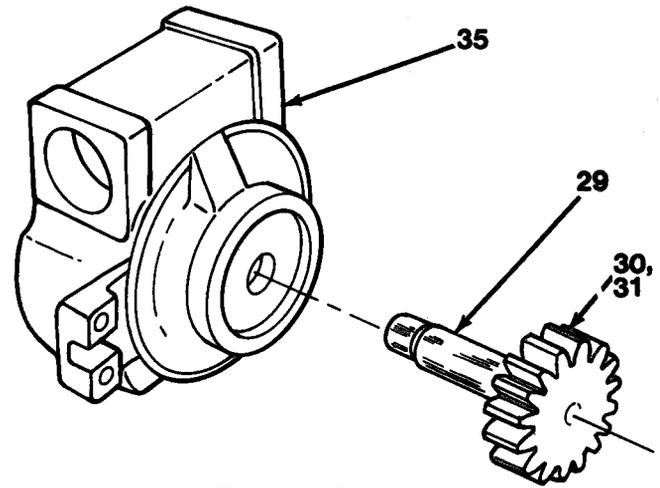

Figure 15-10
19. Press shaft (29) out of housing (35). Remove seal (30) and one bearing cone (31, Figure 15-10) from shaft.